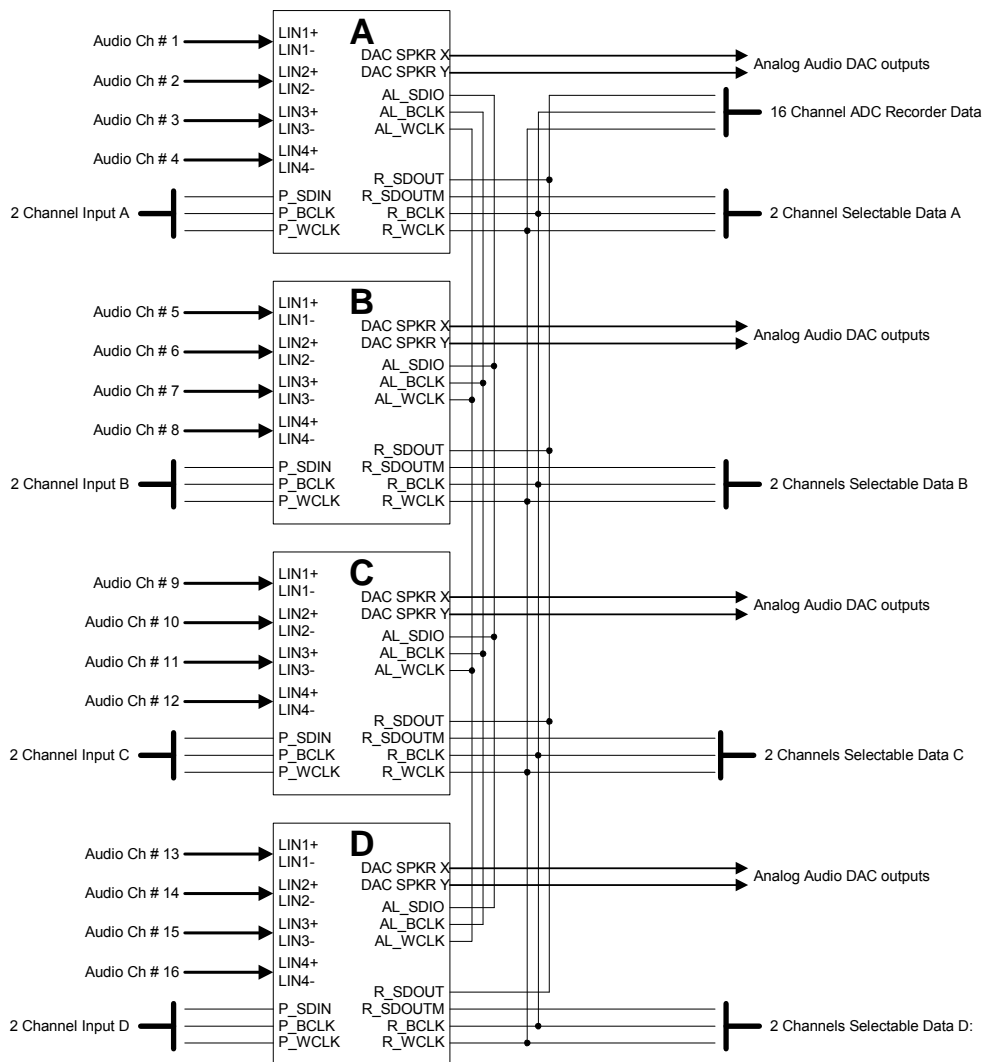

Figure 35: Four MAX9530s using Audio Link.
The MAX9530 Audio Link interface allows up to four (4) devices to be used together as a larger audio subsystem, shown in Figure 35: